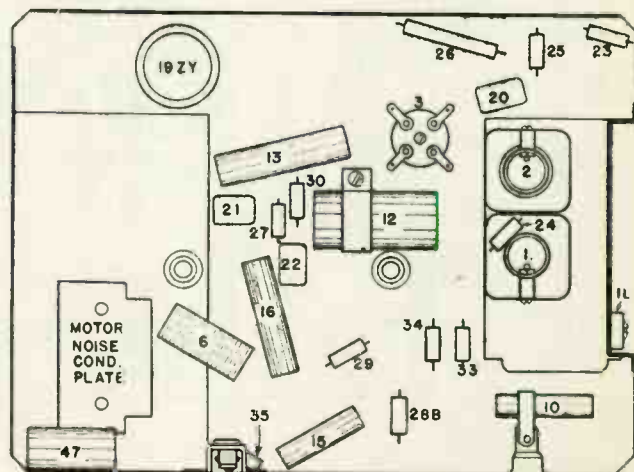

Fig. 3 Bottom View A-167
- (c) Adjust the antenna compensating condenser, Illustration No. 11, Fig. 3, for maximum output.